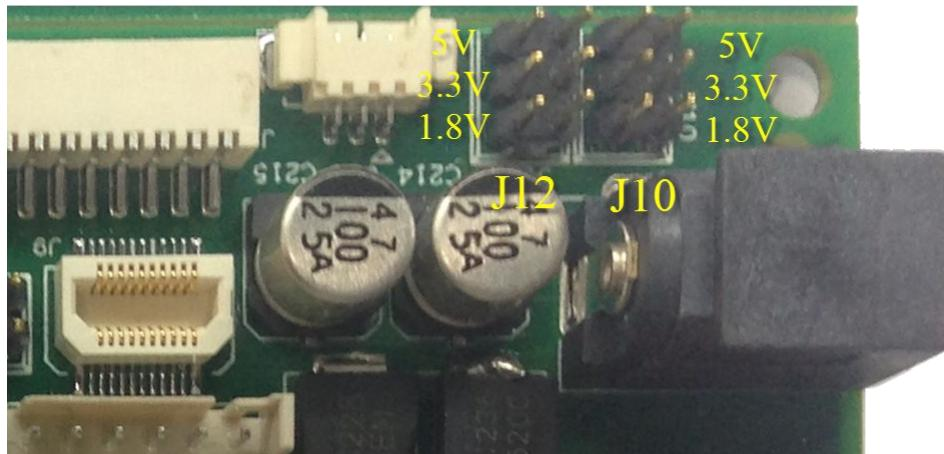

Figure 1-10. PRO4500 J10 and J12 Voltage Jumpers
- J10: DLPC350 TRIG1_IN voltage selection. See to Figure 1-10.
- J12: DLPC350 TRIG2_IN voltage selection. See to Figure 1-10.